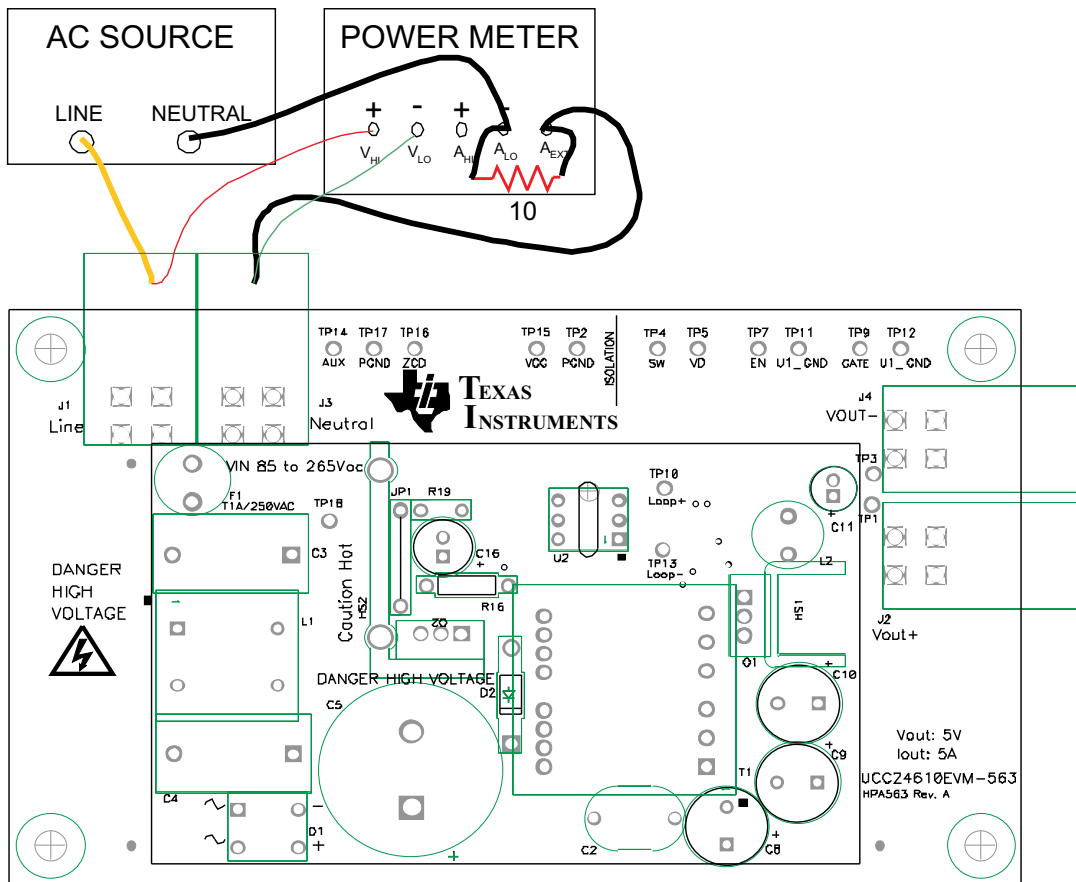
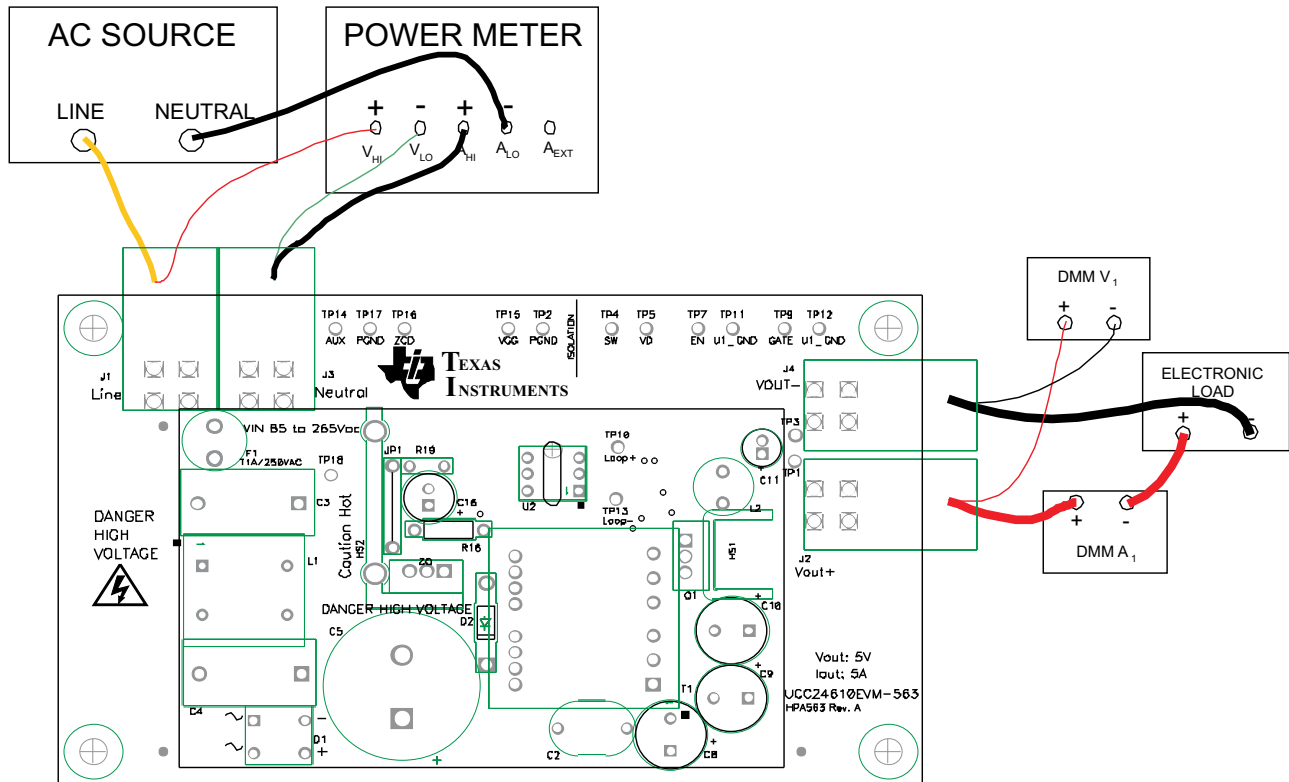

Figure 2. Recommended Test Set Up Without a Load.
Figure 3. Recommended Test Set Up With a Load.
Figure 2 shows the equipment set up when measuring the input power consumption during no load.
Notice the addition of the 10-Ω shunt resistor in Figure 2.
Figure 3 shows the basic test set up recommended to evaluate the UCC24610EVM-563 with a load.
See Figure 2 and Figure 3 for recommended test set ups.
- **AC Input Source:** The input source shall be an isolated variable AC source capable of supplying between 85 V_{RMS} and 265 V_{RMS} at no less than 30 W and connected as shown in Figure 2 and Figure 3. For accurate efficiency calculations, a power meter should be inserted between the neutral line of the AC source and the Neutral terminal of the EVM. For highest accuracy, connect the voltage terminals of the power meter directly across the Line and Neutral terminals of the EVM.
- **Load:** For the output load, a programmable electronic load set to constant current mode and capable of sinking 0 to 5 A_{DC} at 5 V_{DC} shall be used. For highest accuracy, V_{OUT} can be monitored by connecting a DC voltmeter, DMM V1, directly across the V_{OUT+} and V_{OUT-} terminals as shown in Figure 3. A DC current meter, DMM A1, should be placed in series with the electronic load for accurate output current measurements.
- **Power Meter:** The power analyzer shall be capable of measuring low input current, typically less than 50 mA, and a long averaging mode if low power standby mode input power measurements are to be taken. An example of such an analyzer is the Voltech PM100 Single Phase Power Analyzer. To measure the intermittent bursts of current and power drawn from the line during no-load operation, an external 10-Ω shunt, with a current scale factor of 10A/V, was used at a high sample rate over an extended period of time in order to display the averaged results (refer to Figure 2).
- (a) If no-load input power measurements are to be made, set the power analyzer to long averaging and external shunt mode. Insert a shunt, such as a 10- Ω resistor as shown in Figure 2, in series with the Neutral terminal of the EVM. Set the appropriate current scale on the power analyzer.
- (b) For operation with a load, as shown in Figure 3, set the electronic load to constant current mode to sink 0 A.
- (a) Use the test set up shown in Figure 3.